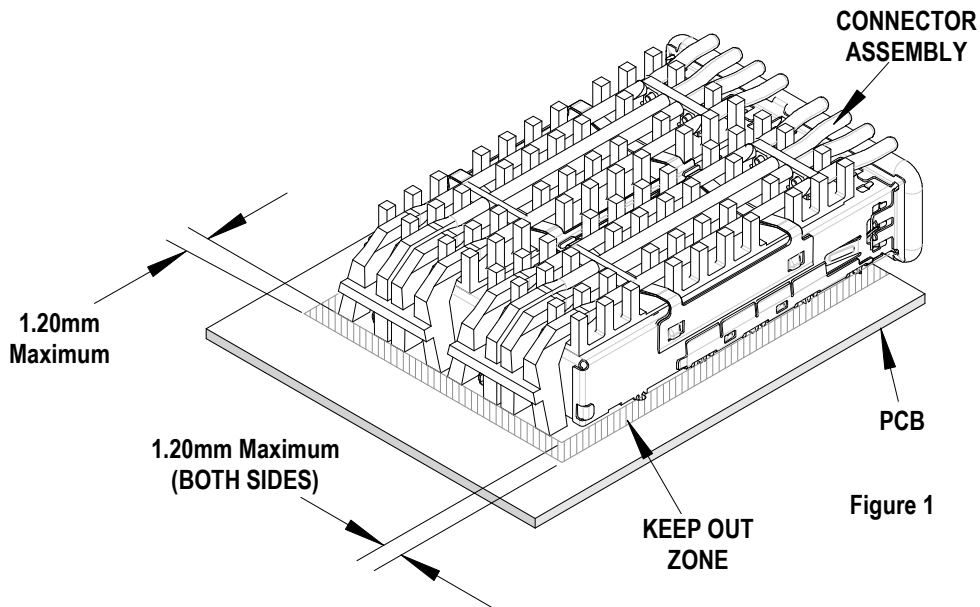

Figure 1
2. These tools require a “Keep Out Zone” around the connector free of components. The rear of the connector should be .200” (5.08mm). The right and left sides should be .080” (2.00mm). See Figure 1.